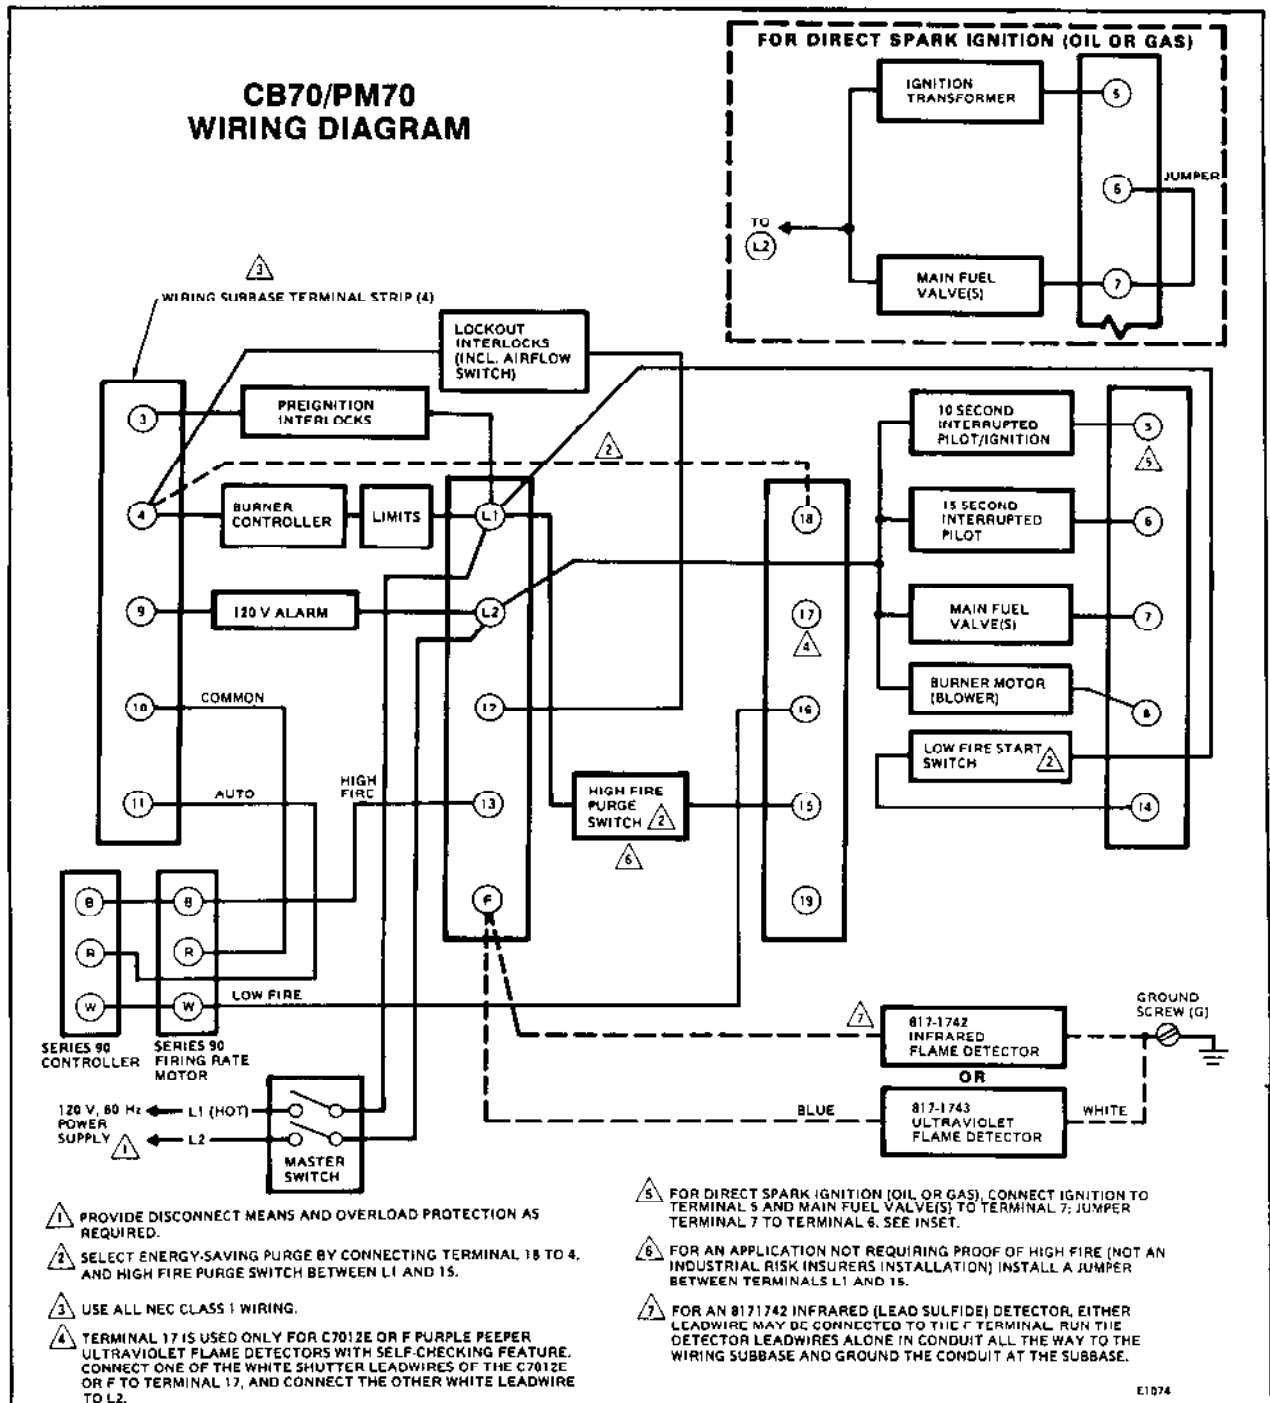

FIG. 6—WIRING THE CB70.
4. Wiring connections for the CB70 differ from those of other controls that mount on the same subbase. Refer to Fig. 6 for proper subbase wiring.
1. Wiring connections for the CB70 differ from those of other controls that mount on the same subbase. Refer to Fig. 6 for proper subbase wiring.
8. Check all wiring against Fig. 6 before installing the CB70 on the subbase.